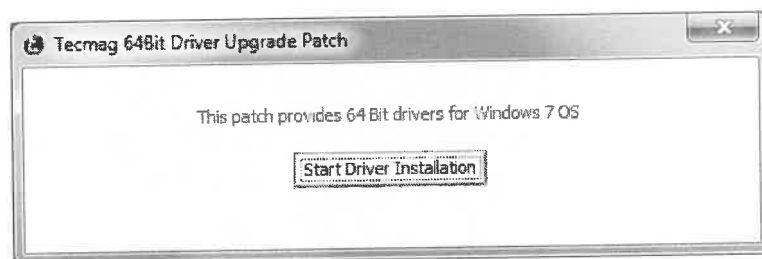

Figure 21
4. On the Tecmag 64Bit Driver Upgrade Patch window, click Start Driver Installation. (See Figure 21)